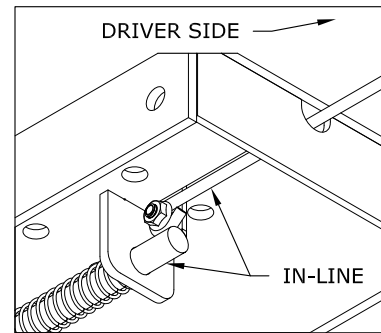

FIGURE E1: Center Section
1. Install the latch pin release handle by inserting it through the slot in the end of the center section on the driver side of the truck. Align the handle eyelet with the square hole in the latch pin so the handle is in line with the latch as shown in figure E1.